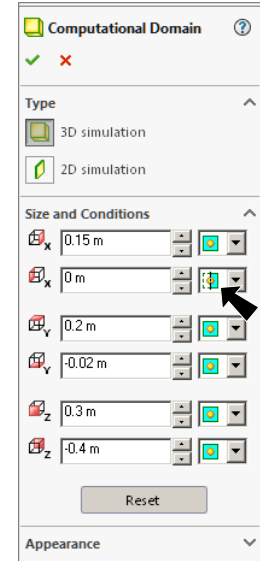

Fig. 10
Step 3. Set At X min to Symmetry , Fig. 10.